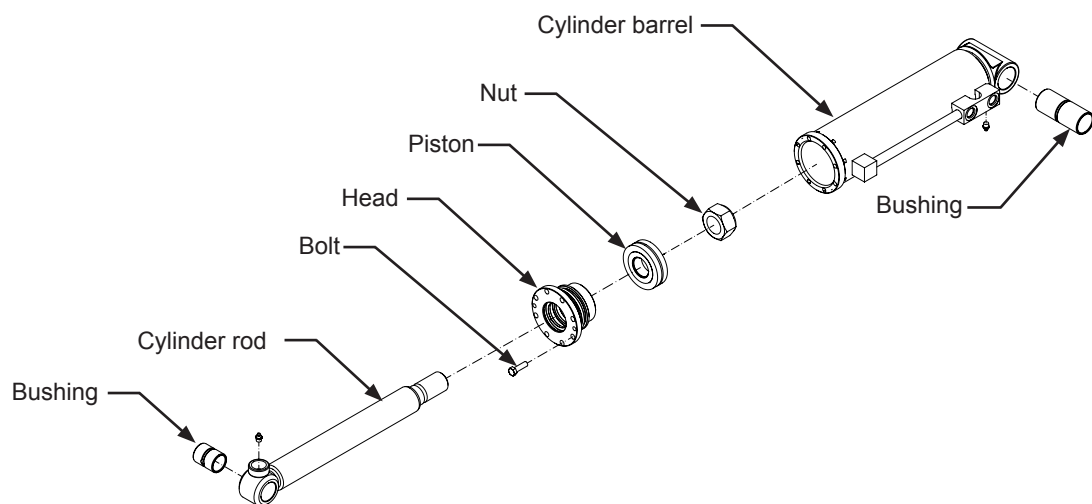

Figure 6 - Cylinder exploded view
2. Place the grapple in the maintenance position as shown in *Figure 6*.